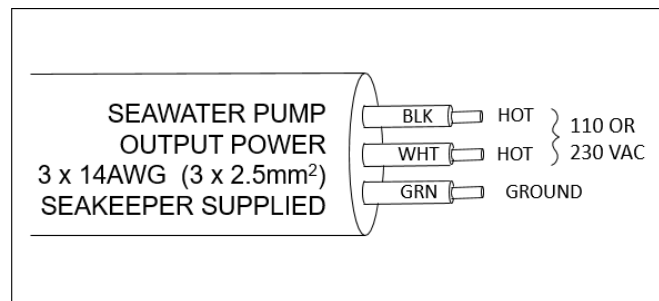

FIGURE 4 – CABLE 5, AC OUTPUT POWER CABLE
- b. Connect the AC output conductors in CABLE 5 to a 5 Amp maximum, Seawater Pump according to Figures 4 and 5.
- ii. The recommended wiring is shown in Figure 6. Refer to Figure 4 for Cable 5 wire connections.